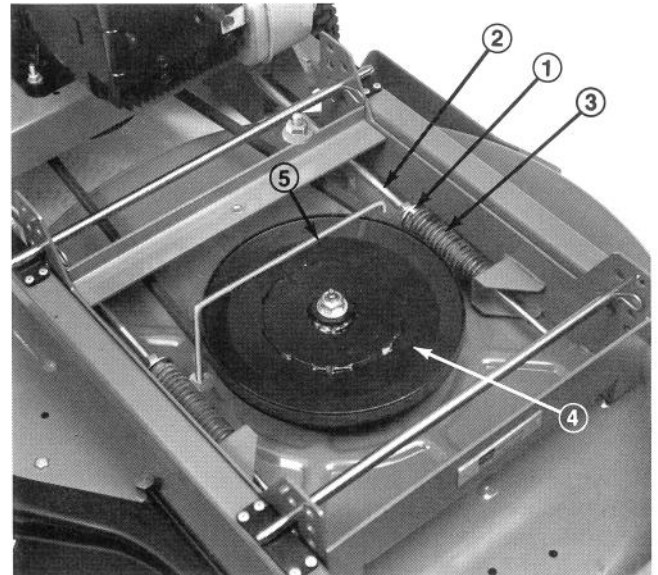

Figure 15
3. Loosen jam nuts on each adjusting shaft and remove blade drive belt (Fig. 15).
4. Install new belt around spindle pulley and engine pulley (Fig. 15).
3. Remove nut and flatwasher retaining pulley on spindle shaft (Fig. 15). Pull pulley off shaft.